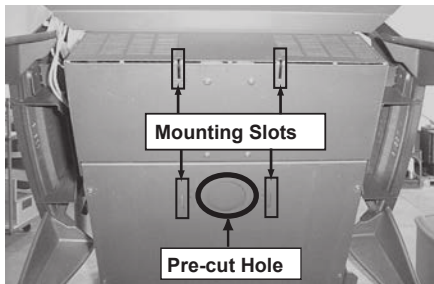

Figure 19.1
1. **Figure 19.1** shows bottom of convection blower mount and pre-cut air vent opening for reference only. Air channel should be mounted with stove in upright position.